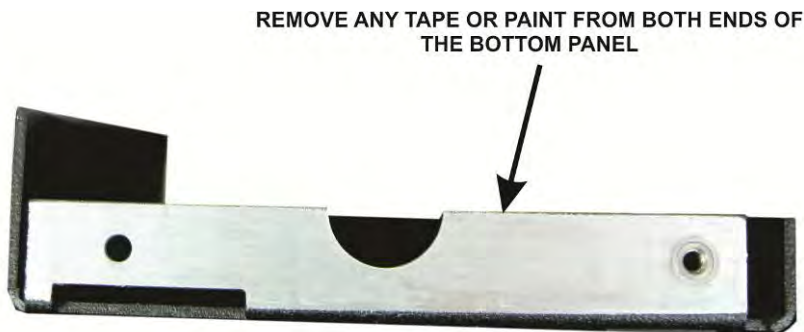

Figure 40. Rear Panel Ends Cleaned.
- Unwrap the bottom panel and clean away tape or paint from each end as shown in Figure 40.